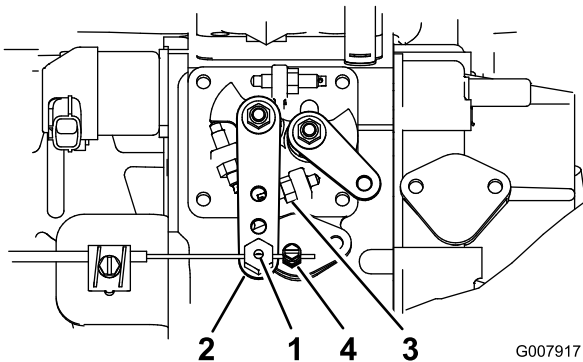

Figure 62
2. Loosen the throttle cable connector, on the throttle cable, next to the injection pump lever (Figure 62).
3. Hold the injection pump lever arm against the high idle stop (Figure 62).